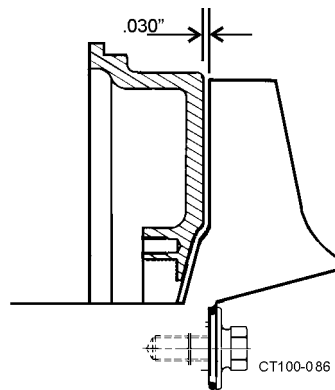
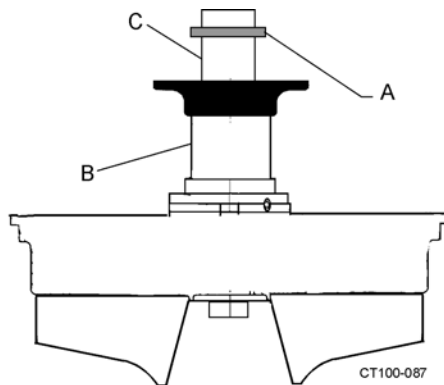

Figure 11 - Clearance Between Impeller and Backplate
Figure 12 - Locations of Shims
14. Check the space between the back of the impeller and the backplate with a feeler gauge (.030 nominal) while holding the backplate tight against the bearing housing flange. (Any axial movement of the shaft should not be added to the .030 nominal clearance). (Figure 11). If needed, change this clearance by adding or removing shims. Shims (Figure 12, item A) are added on the drive shaft (Figure 12, item C) behind the impeller shaft (Figure 12, item B).